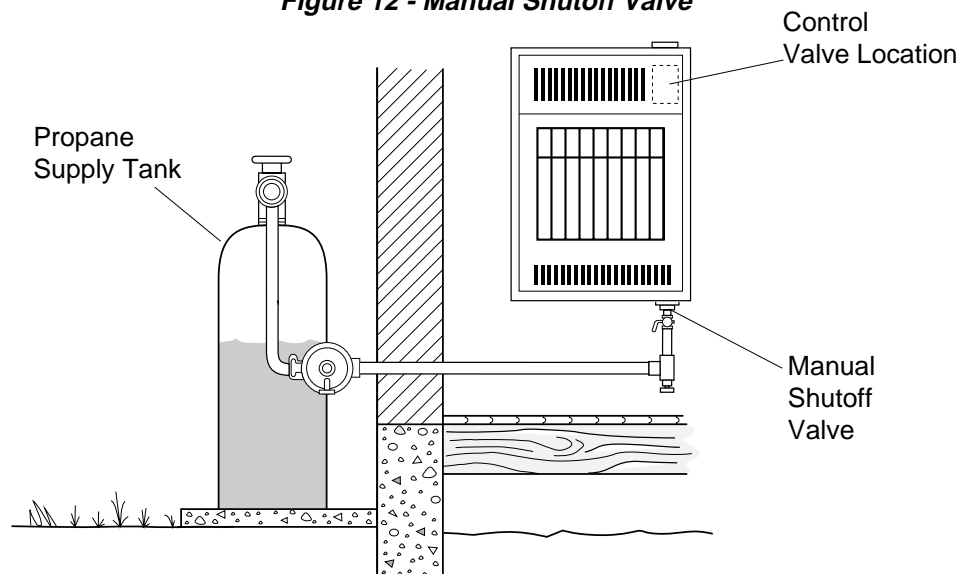

Figure 13 - Checking Gas Joints
3. Check all joints from propane supply tank to manual shutoff valve (see Figure 13). Apply mixture of liquid soap and water to gas joints. Bubbles forming show a leak.
4. Check all joints from manual shutoff valve to control valve (see Figure 13). Apply mixture of liquid soap and water to gas joints. Bubbles forming show a leak.